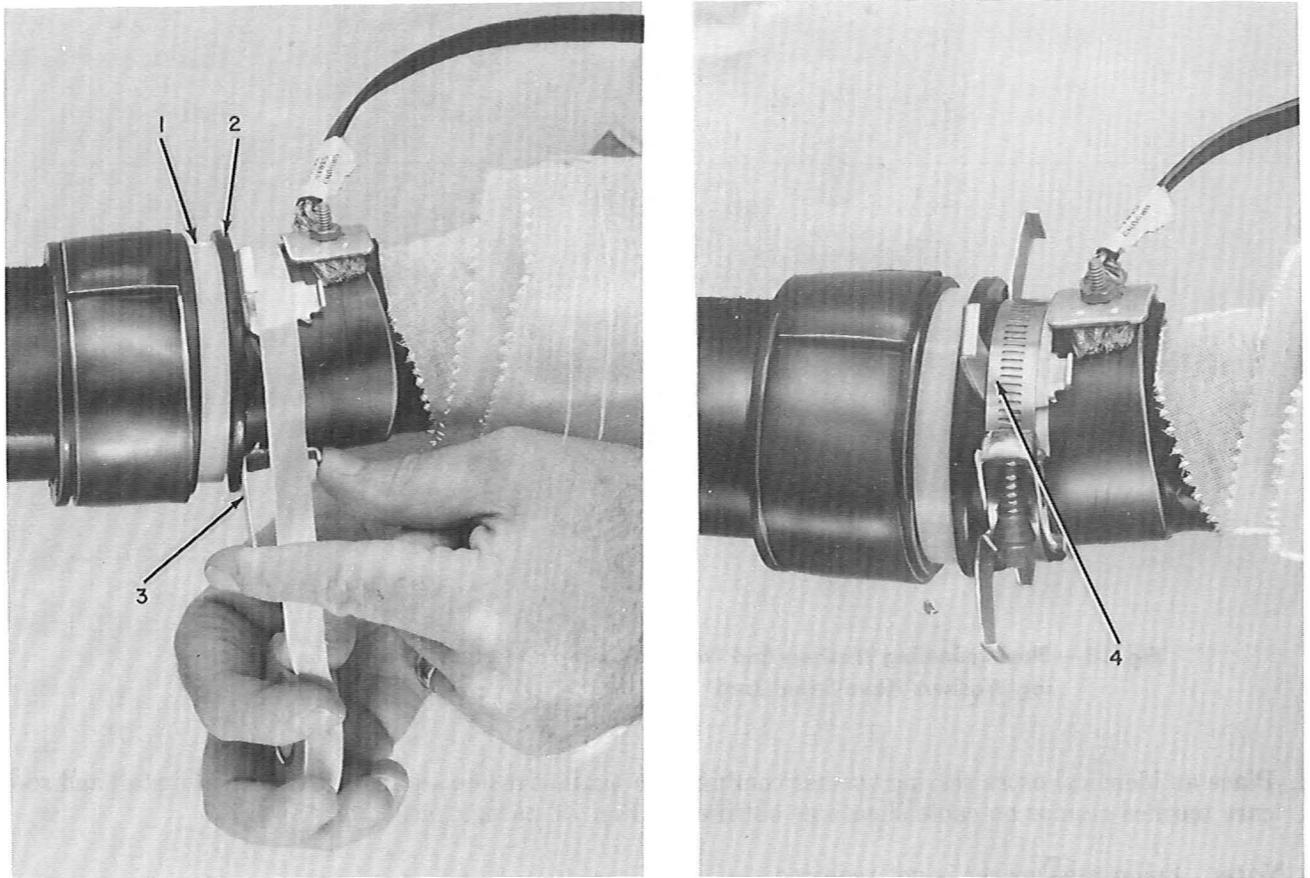

Fig. 12—Placing Toothed Clamps on All Cables (See Fig. 13 for Cables Where HF or JG Sealing Washers Have Been Used)
1. Place an identical extra sealing washer combination against inside sealing washer, then install and secure toothed clamps on cable sheath as outlined in Fig. 12, paragraphs 3 and 4.
5. Place toothed clamps on all cables as outlined in Fig. 12 or 13.